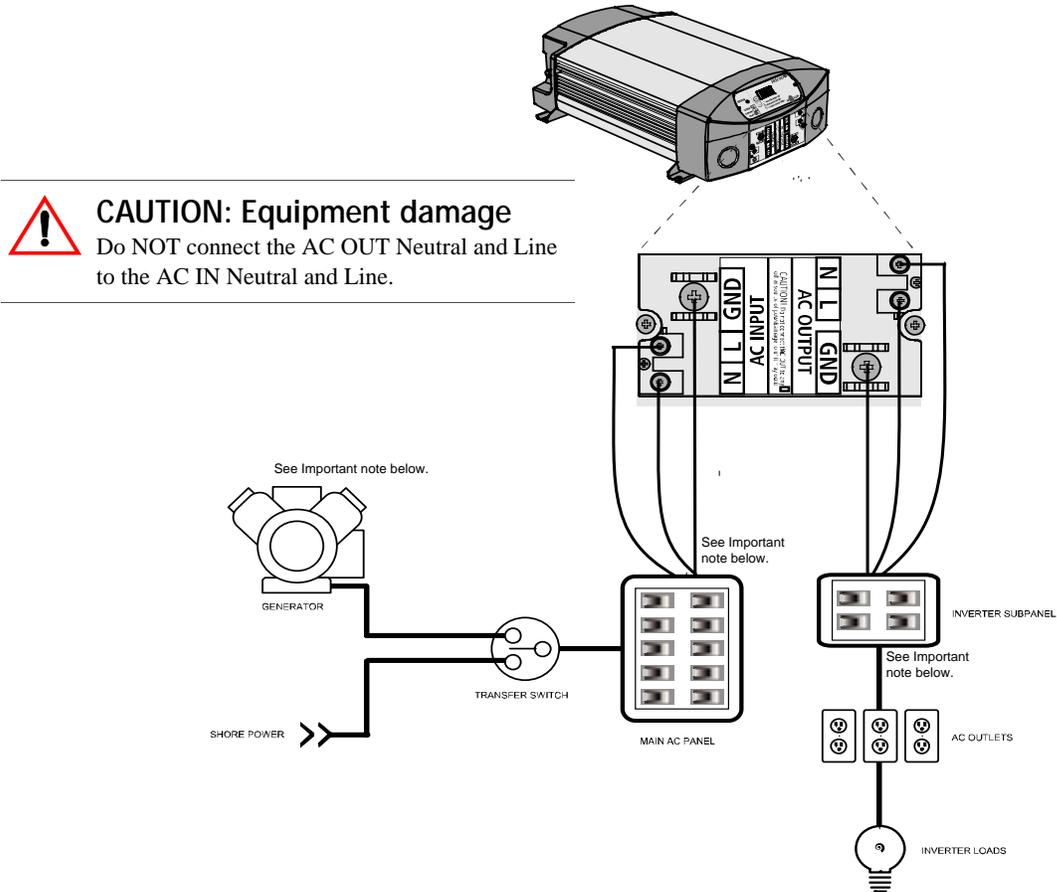
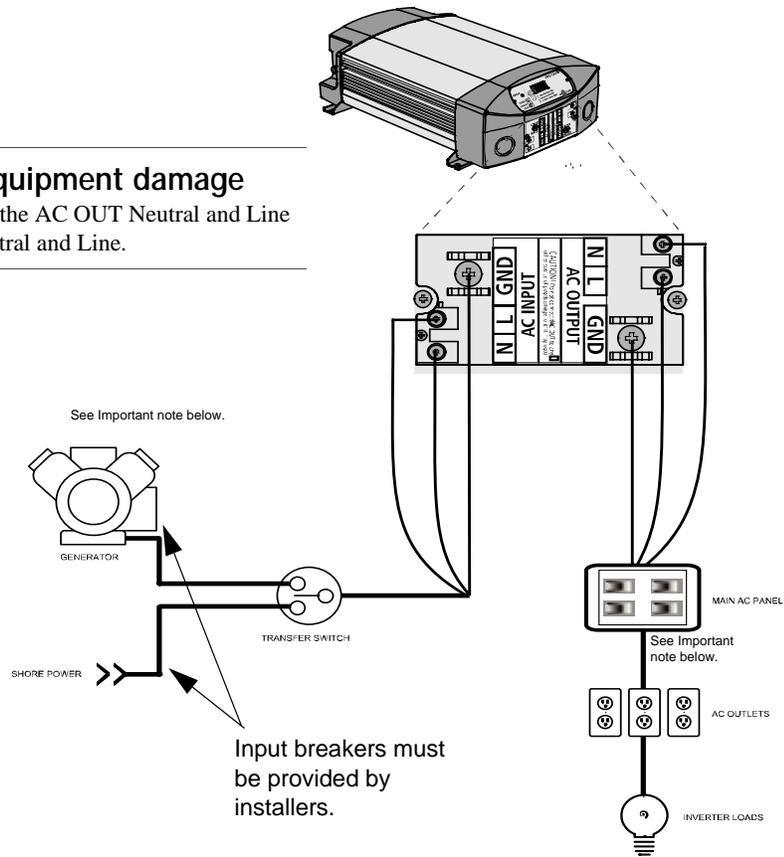

Figure 1-6 AC Wiring Diagram with an Inverter Subpanel
Figure 1-7 AC Wiring Diagram without an Inverter Subpanel
2. Install the required circuit breaker in the AC output panel supplying the unit (See Figure 1-6 on page 1-22).
2. Install the required value of circuit breaker in the AC load panel (see Figure 1-6 on page 1–22 and Figure 1-7 on page 1–23).